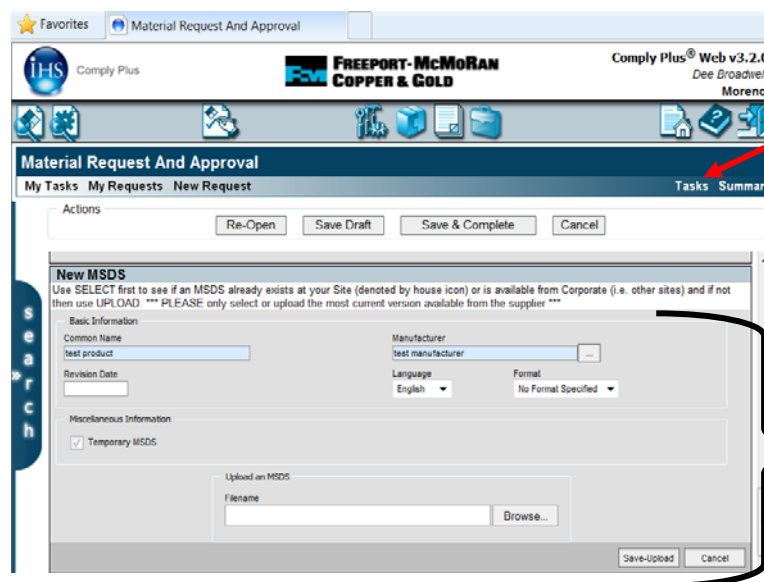

Figure 12
- f. Upload SDS button - Click "Upload MSDS" to attach a new product for review (see Figure 12). Complete the following fields before Saving.
7. Click on "Tasks" at the top right of the page to return to the "Requester Tasks" List (see Figure 12).